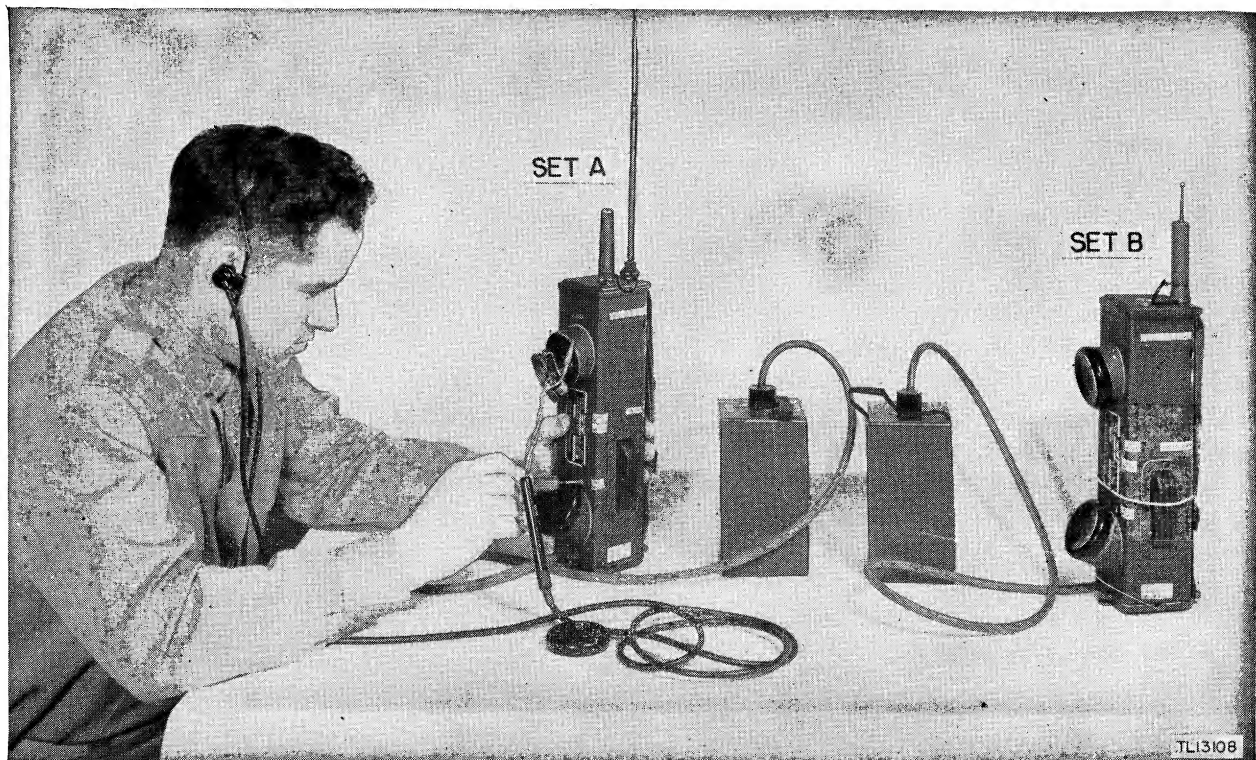

Figure 83. Emergency test equipment, using headset.
a. The set on which adjustments are to be made is inserted in a special test housing similar to Test Case CS-81-(), which is made by modification of a Radio Receiver and Transmitter BC-611-(*) housing. Another Radio Receiver and Transmitter BC-611-(*) (not necessarily prealigned) is converted into a modulated signal source by causing the speech amplifier to oscillate. This is done by inserting a capacitor across the MIKE and PHONE jacks of the set used as a signal source and tying down the press-to-talk switch. The modulated signal from the set used as a signal source is received by the set to be aligned and preset. The signal is indicated by a headset or milliammeter, and is used for peak receiver adjustments of the set under alignment. (See figs. 83 and 84.)
In the alignment procedures, the set referred to as set A will be the set under alignment. Set B will be the auxiliary "test set." (See fig. 83.)